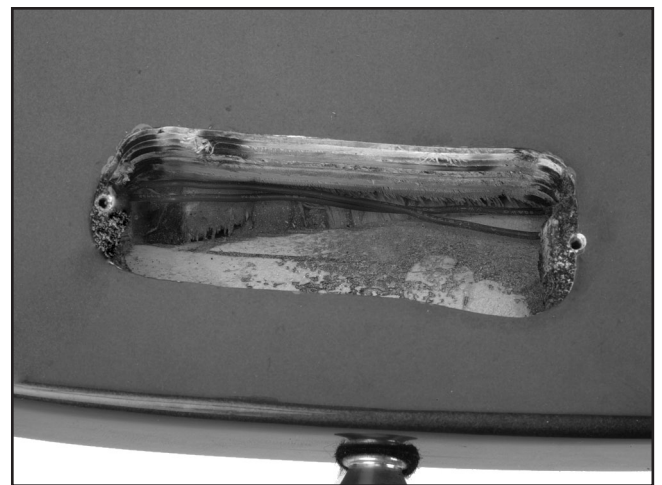

Figure 12. Speaker wires in battery case mortise.
3. Insert the two black wires on the headphone jack through holes in the circuit board mortise and battery case (**Figure 12**) and into the speaker mortise.